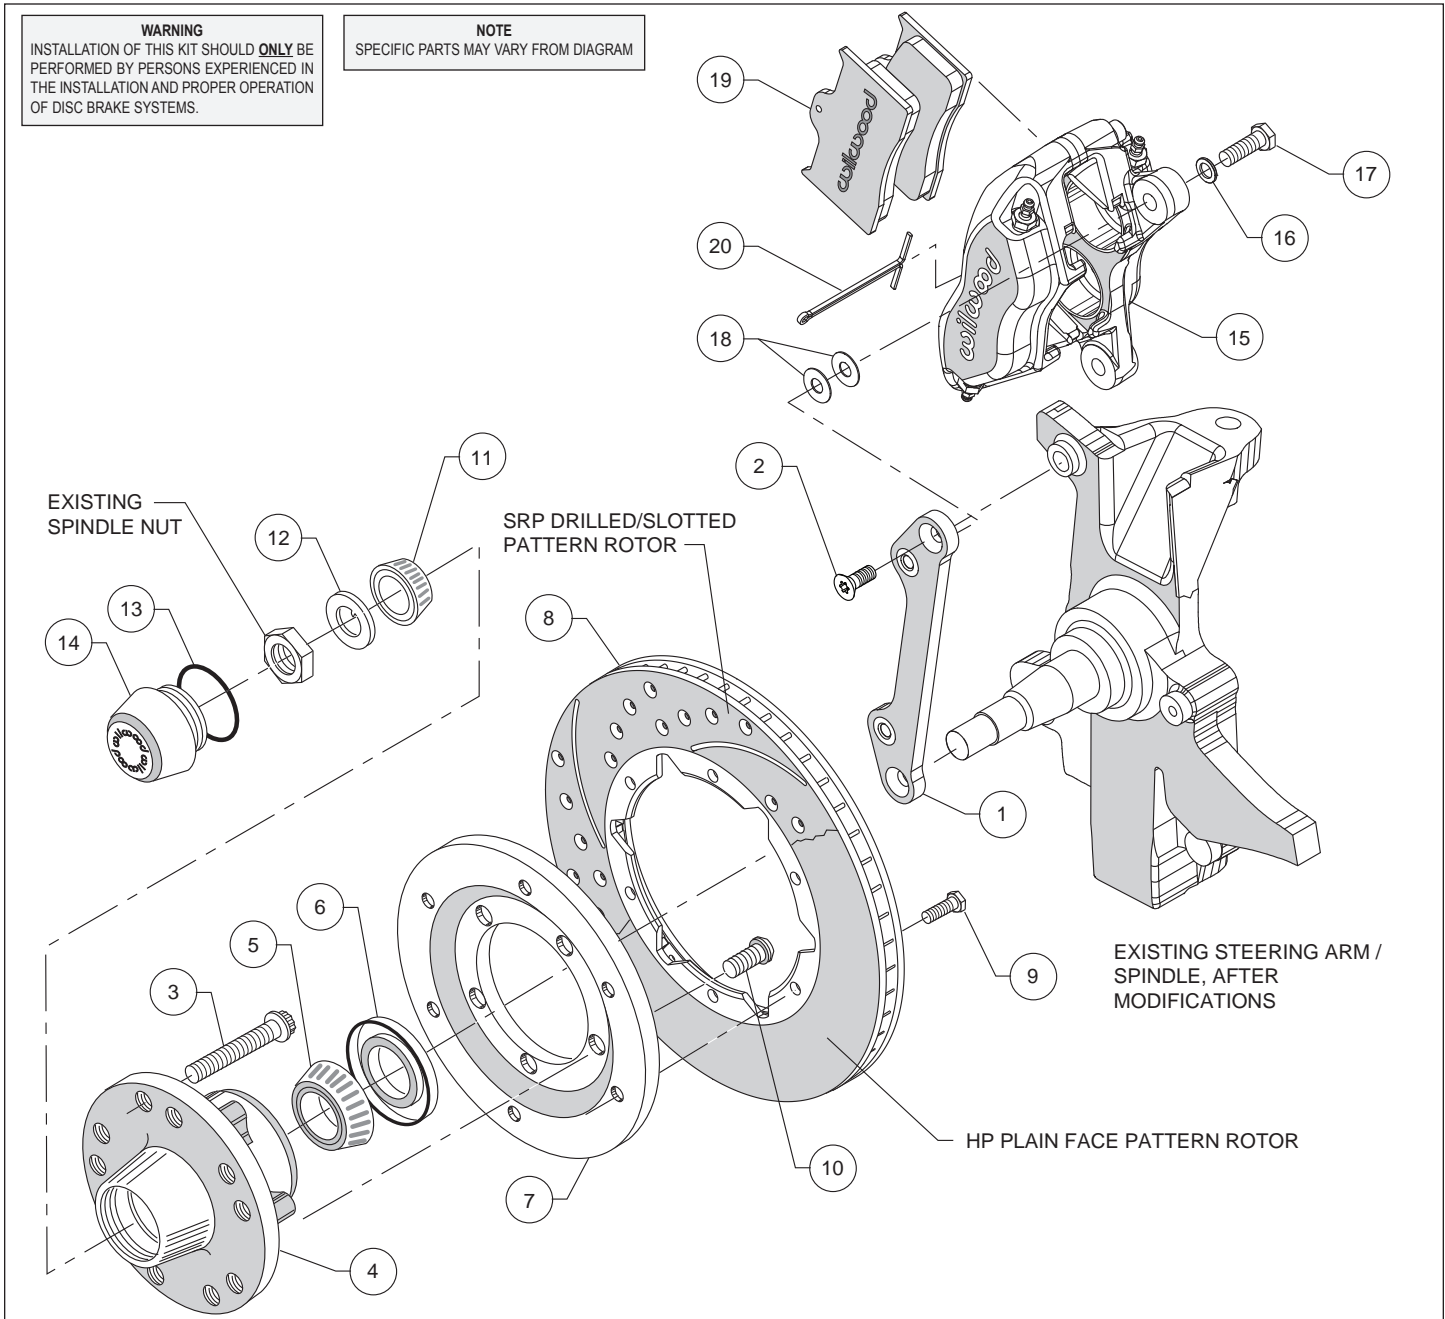
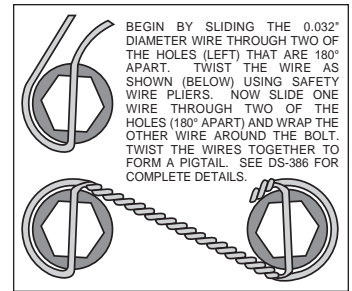
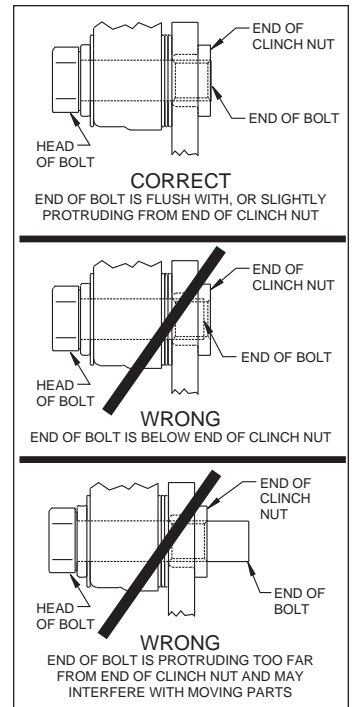

Figure 2. Typical Installation Configuration
Figure 4. Safety Wire Diagram
Figure 5. Clinch Nut Engagement Diagram
Assembly Instructions (numbers in parenthesis refer to the parts list, on the preceding page and Figure 2 above): **CAUTION:** All mounting bolts must fully engage clinch nuts. Be sure to check that all bolts are either flush or protruding through flanged side of clinch nut after shimming, Figure 5.
- Align caliper mounting bracket (1) with the corresponding holes, to the face of the spindle. Attach using bolts (2) as shown in Figure 2 and Photo 1. Temporarily tighten the mounting bolts. Ensure that the flanged heads of the clinch nuts in the bracket are facing outboard, Photo 1. **NOTE:** The bracket must fit squarely against the mounting points on the spindle. Inspect for interference from casting irregularities, machining ridges, burrs, etc. Remove bolts one at a time, apply red Loctite® 271 to threads and torque to 40 ft-lbs.
- Install the grease seal (6) by pressing into the backside of the hub (4), flush with the end of the hub, Photo 3.
- Orient the rotor (8) and the rotor adapter (7) as shown in Figure 2 and Photo 4. Attach the rotor to the adapter using bolts (9). Using an alternating sequence, apply red *Loctite*® 271 to the threads, and torque to 180 in-lb. Safety wire bolts (9) using standard 0.032 inch diameter stainless steel safety wire as shown in Figure 4. Please refer to Wilwood's data sheet DS-386 (available at www.wilwood.com/Pdf/DataSheets/ds386.pdf) for complete safety wire installation instructions.
- Mount the adapter/rotor assembly (7/8) to the hub (4) using bolts (10), as shown in Figure 2 and Photo 5. Using an alternating sequence, apply red *Loctite*® 271 to the threads, and torque to 55 ft-lb.
- NOTE:** Please reference the caution statement at the beginning of the assembly instructions. Mount the caliper (15) onto the caliper mounting bracket (1) using bolts (17) and washers (16), as shown in Figure 2. Initially place two .032" thick shims (18) on each bolt between the caliper and the bracket, Photo 8. Temporarily tighten the mounting bolts and view the rotor (8) through the top opening of the caliper. The rotor should be centered in the caliper, Photo 9. If not, adjust by adding or subtracting shims between the bracket and the caliper. Always use the same amount of shims on each of the two mounting bolts. **NOTE:** The end of each bolt must be flush with or slightly protruding from the head of the clinch nut, as shown in Figure 5. If necessary place spare shims between washer (16) and caliper mounting ear to achieve the proper clinch nut engagement. Once the caliper alignment and clinch nut
engagement are correct, remove the bolts one at a time, apply red *Loctite*® 271 to bolt threads, and torque to 40 ft-lb. Safety wire the bolts as shown in Figure 4.